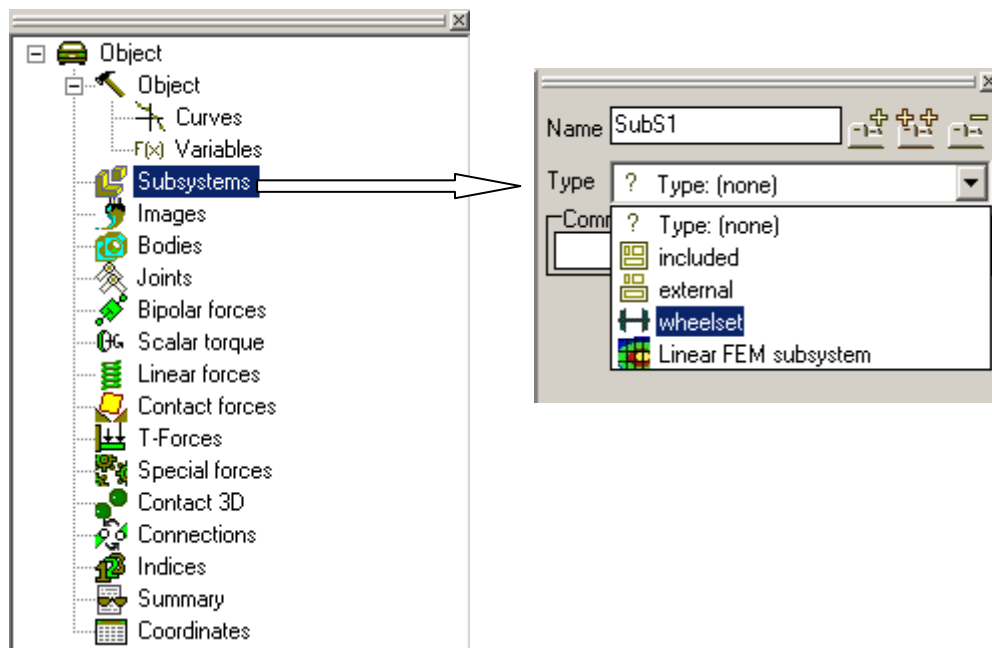

Figure 2.6. Adding a standard subsystem – “wheelset”
1. Select **Subsystems** in the element tree (Fig. 2.6, left) and add a subsystem by clicking the  button on the data inspector, rename it to **WheelSet1** and choose the type of the subsystem – **wheelset** (Fig. 2.6, right). Wheelset appears in the animation window and the data in inspector reflect its current geometrical and inertia parameters.